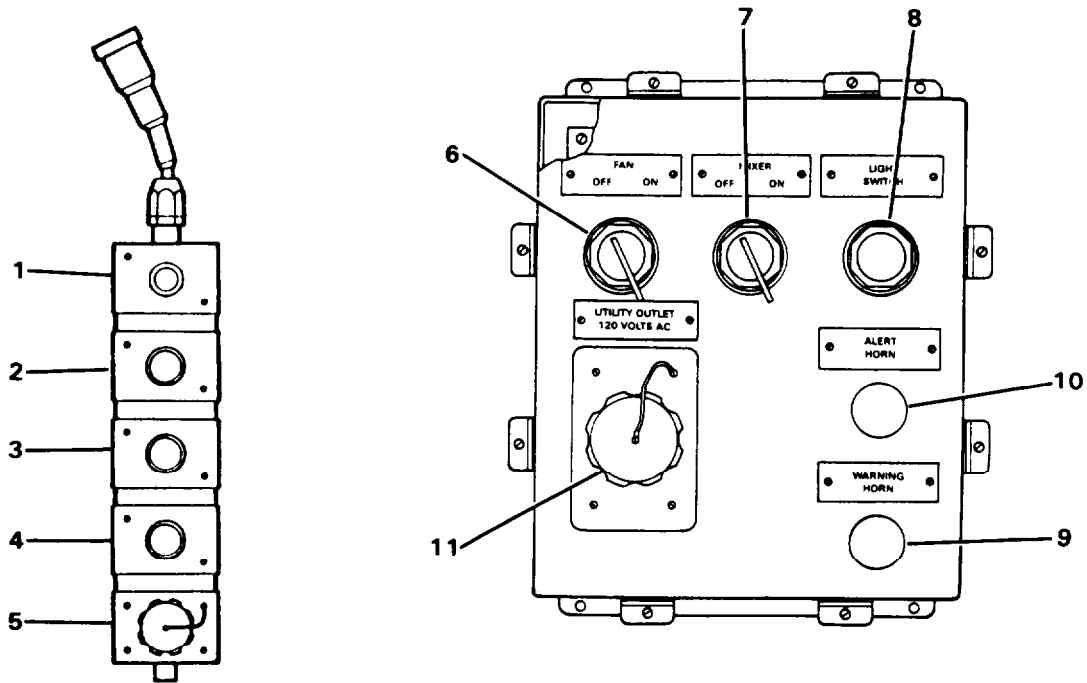

Figure 2-3. Switch Panels No. 1 (Left) and No. 2 (Right)
a. *Switch Panel/s.* A switch panel is located at each door to the Water Purification System ISO container. The controls and indicators for switch panels no. 1 and no. 2 are shown in Figure 2-3 and listed in Table 2-2.
(Item numbers are keyed to Figure 2-3)